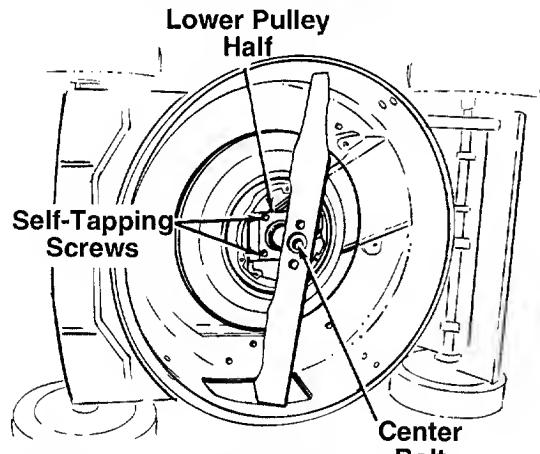
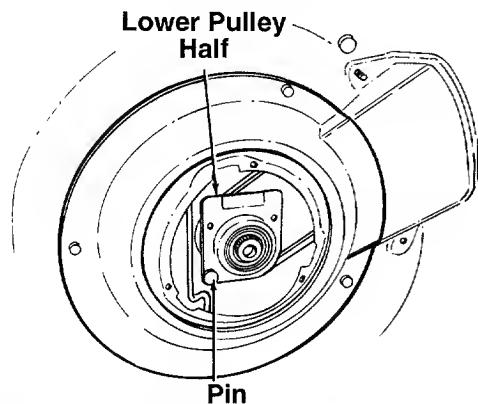

FIGURE 12B.—Six Speed Models
FIGURE 13A.—Six Speed Models
B. **Six Speed Models:** Remove the two self-tapping screws which secure the lower pulley half. See figure 12B. Rotate the lower pulley half 90° clockwise (see figure 13A) and remove from mower. Remove the belt from around the crankshaft.